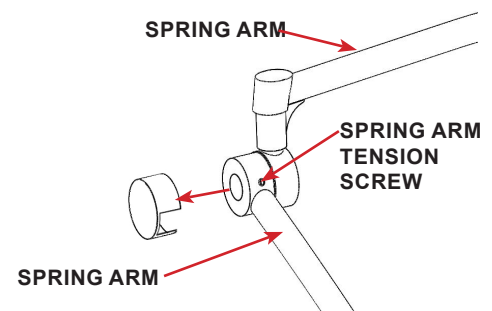

FIGURE 2.18 - Tension Adjustment
STEP 1: Remove the spring arm rotator joint cap by inserting a flat tip screwdriver and slightly pop the plastic cover from the joint assembly. Refer to FIGURE 2.18